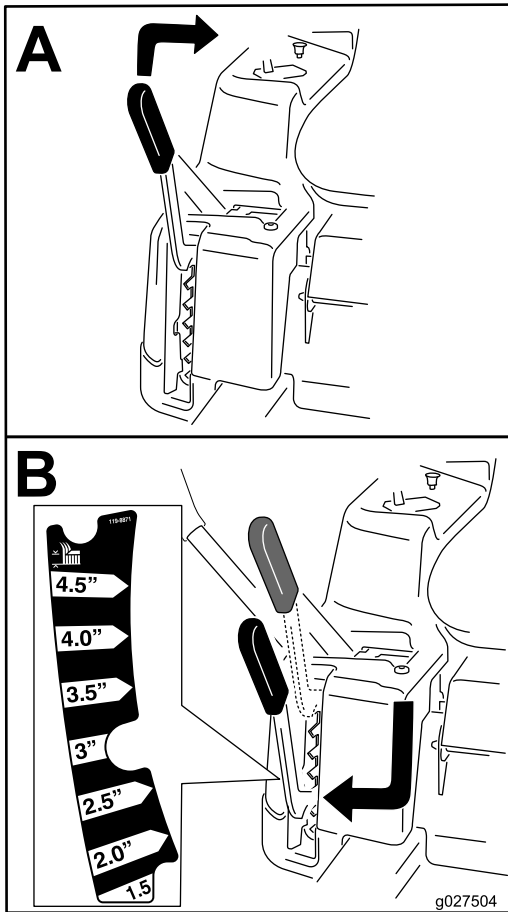

Figure 19
**Note:** The transport position is the highest height-of-cut position or cutting height 4.5 inch [115 mm] (Figure 19).
Height-of-cut is controlled by the lever located to the right of the operating position (Figure 19).